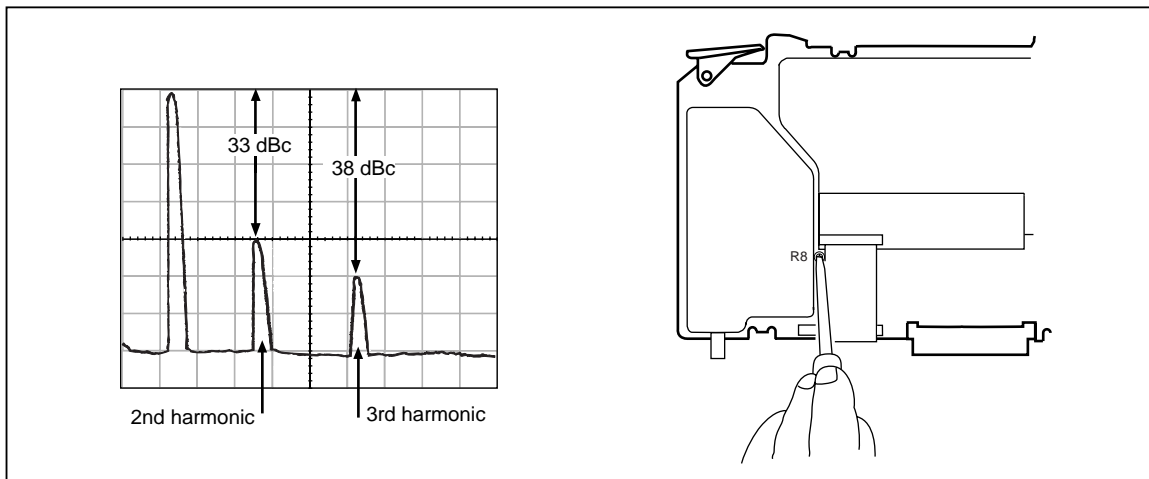

Figure 3-11. Adjusting the Levelled Sine Wave Harmonics
- Use your Spectrum Analyzer's Peak Search function to find the desired reference signal. The Analyzer should show the fundamental, and second and third harmonics. The harmonics need to be adjusted so that the second harmonic is at 33 dBc and third harmonic should typically be at 38 dBc as shown in Figure 3-11.
- To adjust the harmonics, adjust R8, as shown in Figure 3-11 until the peaks of the second and third harmonic are at the correct dB level. You may find that you can place the second harmonic at 33 dBc but the third harmonic is not at 38 dBc. If this is the case, continue adjusting R8. The second harmonic will fluctuate, but there is a point at which both harmonics will be at the correct decibel level.